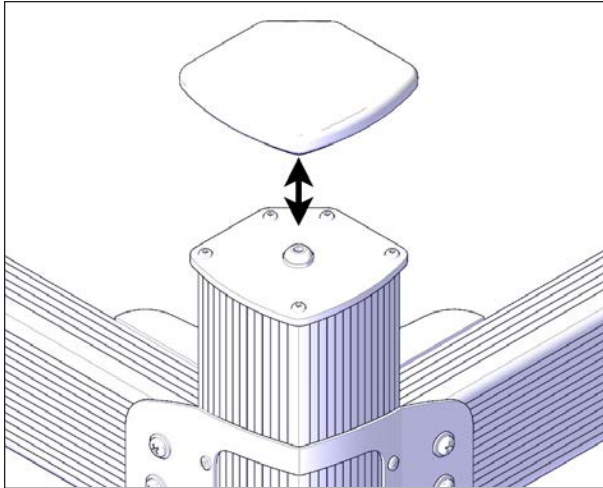

FIGURE 50: RUBBER CAP INSTALLATION
30. Install the rubber caps on all posts. These caps are in the parts box and protect the post assembly tops from weathering, see Figure 50.